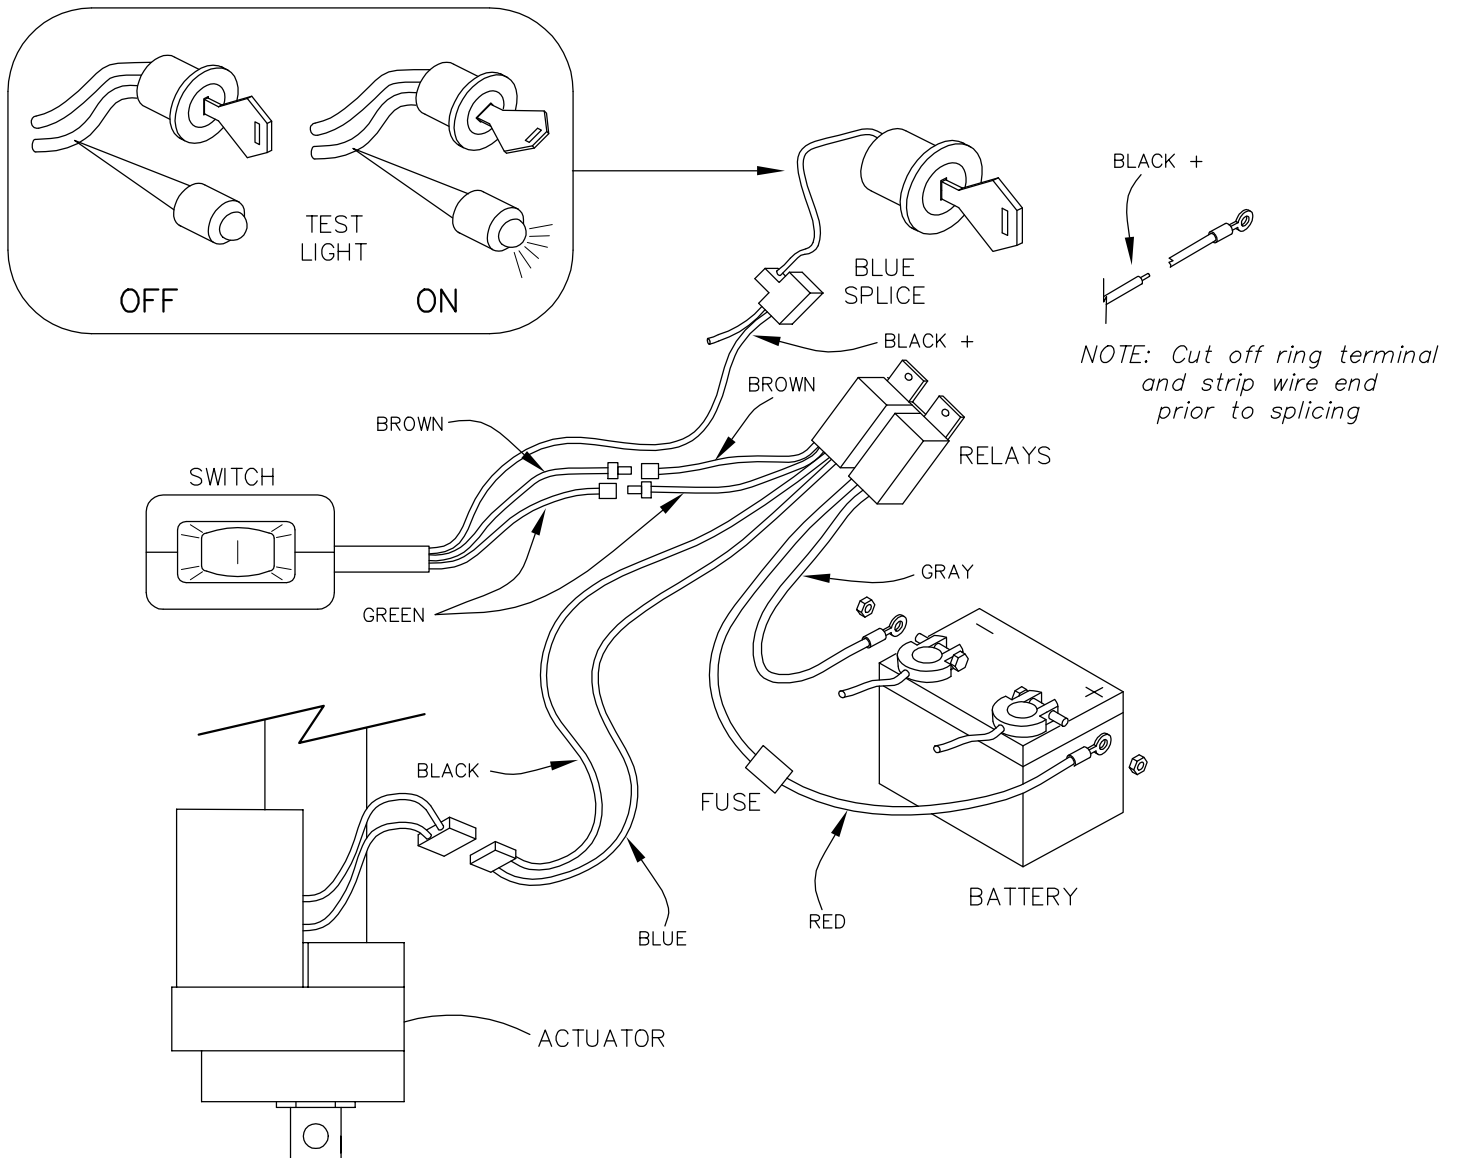

FIGURE 9
2. As shown in Figure 9, route the RED and GRAY wires along the frame and connect to the battery. The RED wire goes to the positive (+) terminal and the Gray wire goes to the negative (-) terminal.
3. As shown in Figure 9, route the BLACK and BLUE wires (with weather connector) along the frame to the front of the machine.
6. As shown in Figures 9 and 11, use the blue wire splice to connect the BLACK wire to the HOT ignition wire.